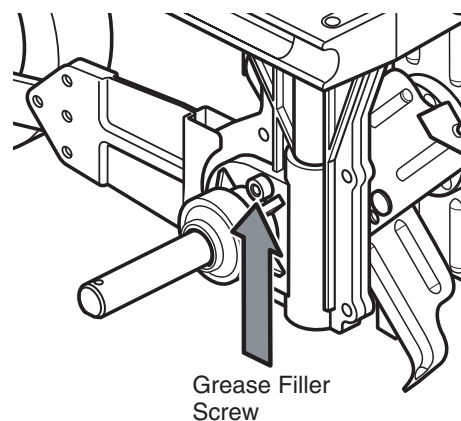

Figure 14 - Grease Filler Screw
2. Locate the grease filler screw located above the tine shaft on the right side of the transmission (see Figure 14).